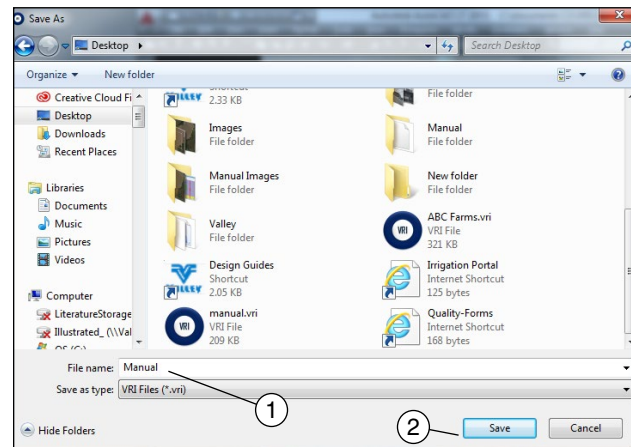

Figure 30-2 1. New File Name 2. Save Button
2. Locate the folder in which you want to save the new project, enter the new project name in the **File name** field, and click **Save**. See Figure 30-2.